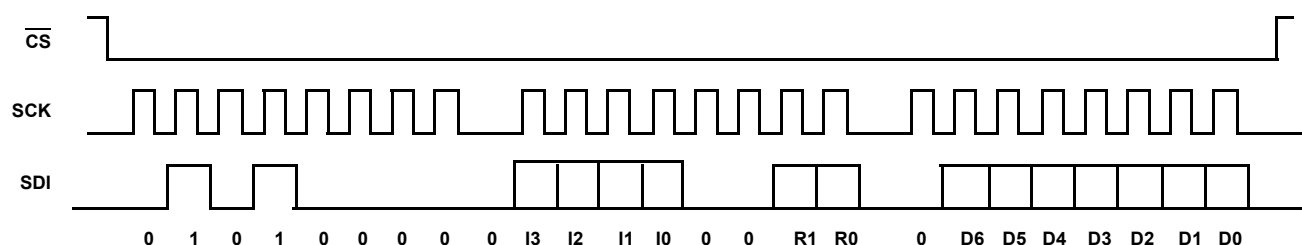

FIGURE 12. THREE BYTE WRITE SEQUENCE
A Write operation to the ISL22419 is a three-byte operation. It requires first, the $\overline{\text{CS}}$ transition from HIGH to LOW, then a valid Identification Byte, then a valid instruction byte followed by Data Byte is sent to SDI pin. The host terminates the write operation by pulling the $\overline{\text{CS}}$ pin from LOW to HIGH. For a write to address 0 (WR), the byte at address 2 (ACR[7]) determines if the Data Byte is to be written to volatile or both volatile and non-volatile registers. Refer to "Memory Description" on page 9 and Figure 12.